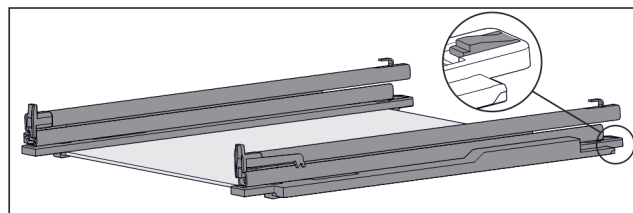

Fig. 155 Glass shelf with rails and retaining parts
- Press down retaining part at the rear (see Fig. 155) and at the same time push the rail back.